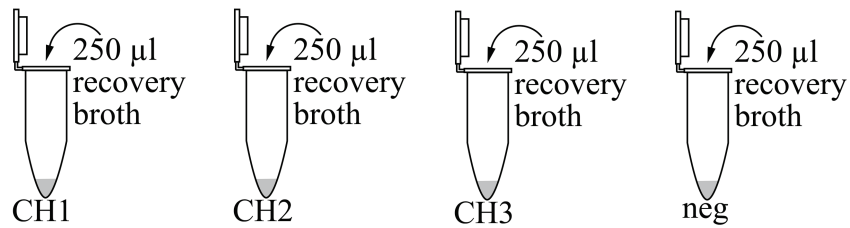

Fig. 22
18. Using a P1000 micropipette and sterile tips, add 250 μ l recovery broth to each tube* (Fig. 22).